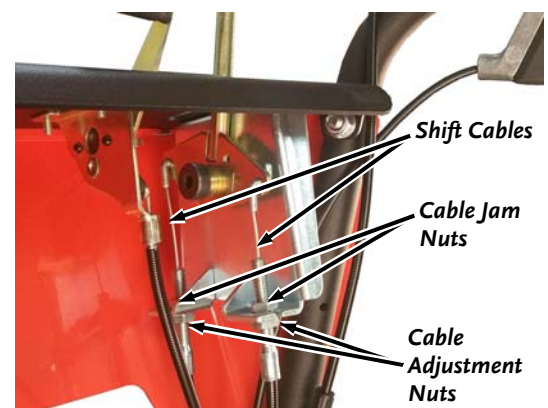

Figure 26
- Locate the Shift Cable Adjustment Nuts on the Shift Lever end of the cable (**Figure 26**).